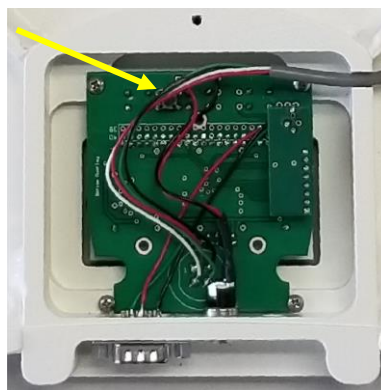
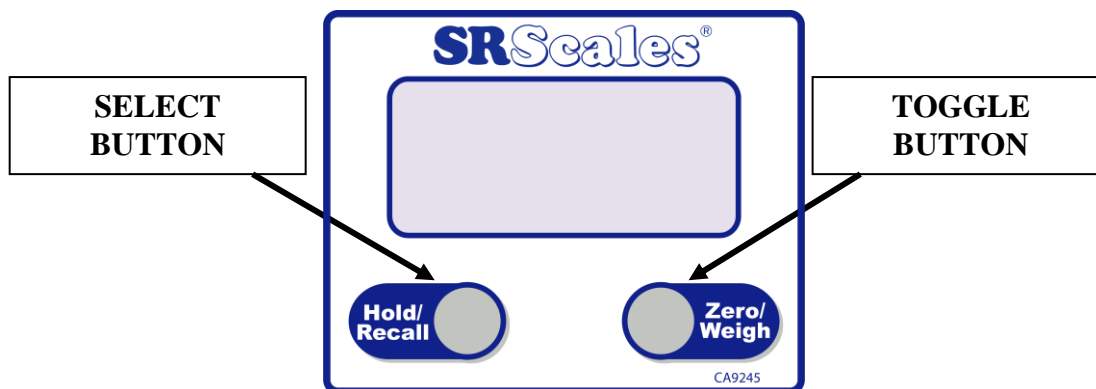

Figure 2: Calibration Button
Figure 3: Select and Toggle Buttons
To access all settings below, remove the feet, spacers and seven (7) screws holding the bottom cover on. Press the calibration button (Figure 2) and CAL mode will now be active. The LCD will show “CAL”.
The Right Button allows you to toggle through the menus without saving any parameters. The Left Button permits a menu item to be selected or a parameter saved (Figure 3).
To enter the CAL mode, press the calibration button (Figure 2). Toggle through the menu with Right Button (Figure 3). Select or Save data with the Left Button (Figure 3).
- f) Press the calibration button (Figure 2) and re-attach the bottom cover, spacers and feet.